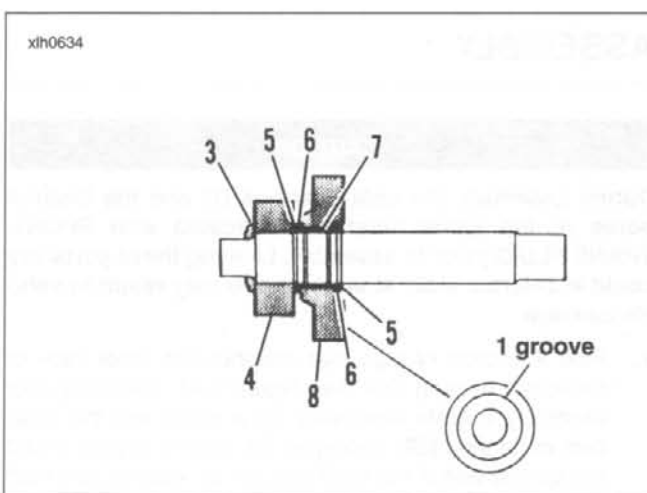

Figure 6-46.
5. See Figure 6-46. Install retaining ring (5) on countershaft. Position retaining ring in the second ring groove from the end with internal threads. Install thrust washer (6) next to retaining ring. Install split bearing (7) in seat next to washer (6).
6. Locate countershaft first gear (8). Gear (8) has a radial groove at one side of the gear. Install gear (8) over split bearing (7) with radial groove facing access door.
7. Install thrust washer (6) and retaining ring (5) next to gear (8).
8. Locate countershaft 4th gear (4). This flat, shoulderless gear is splined and has a single radial groove at one side. Position gear next to retaining ring (5). Place beveled washer (3) over end of shaft with beveled side away from gear (4).